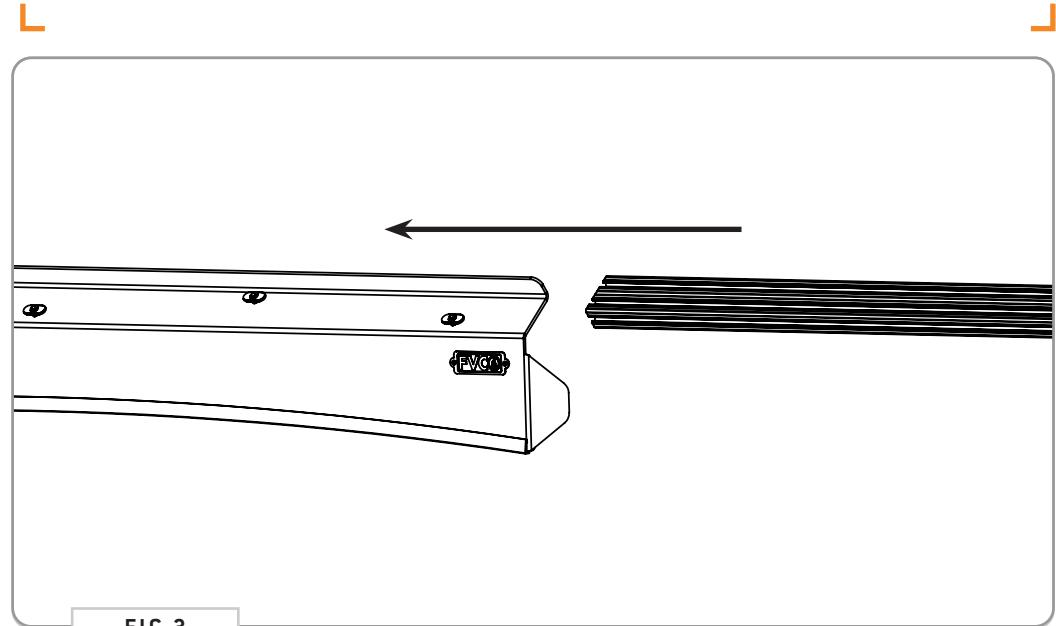

FIG 3
2.1 Crossbar Install: Now, slide the crossbar onto the fairing. You'll have to straighten each t-nut as you go to get it to feed into the crossbar correctly **[FIG 3]**. After sliding the fairing and crossbar together, tighten all five **(5)** of the **1/4-20"** **Button Head Screws**.